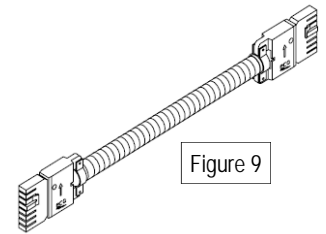

Figure 9
The components that connect one power module to the next are the interconnecting cables. Since all interconnecting cables can interface with either single circuit or multi-circuit systems wires for all circuits will be present. Figure 9 shows that the cables have Female connectors on each end, each is polarized, and color-coded. The Electri-Pak systems 73 and 83 interconnecting cables have black Female connectors; while the Electri-Pak System 84 connectors are gray. This color matches that of the interior male connector in the power modules for each system. The metal-flex cables provide separation from and electro-magnetic shielding for the low voltage wiring that may run near or next to them. Specifically telecommunication wiring like phone and data lines.
- An interconnecting cable as shown in figure 9.